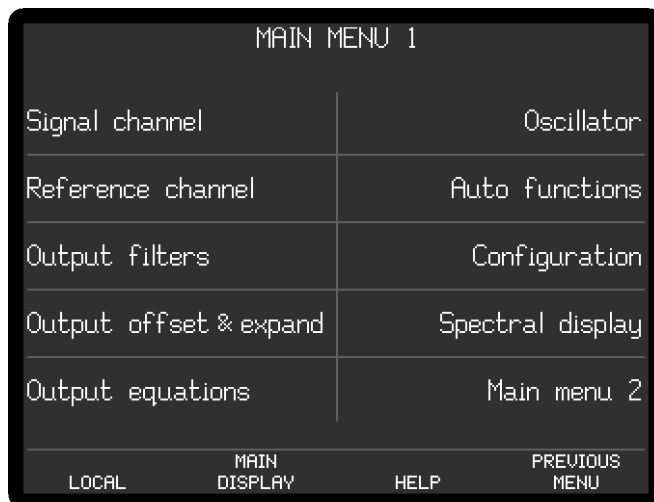

Figure 2-7, Main Menu 1
- 4) Wait until the opening display has changed to the Main Display and then press the key under the bottom right hand corner of the display identified by the legend MENU on the display once. This enters the first of the two main menus, Main Menu 1, shown below in figure 2-7.